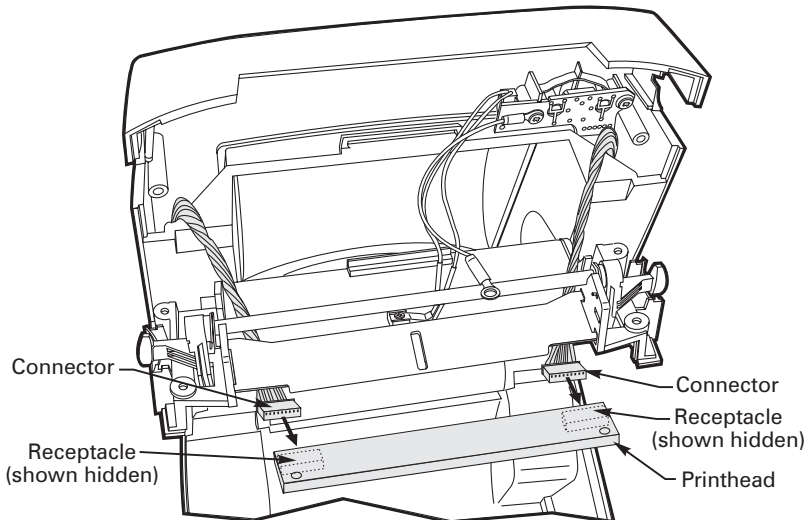

Figure 28
2. Refer to Figure 28. Route the two printhead wire harness connectors as shown. Then, insert the connectors into their receptacles.